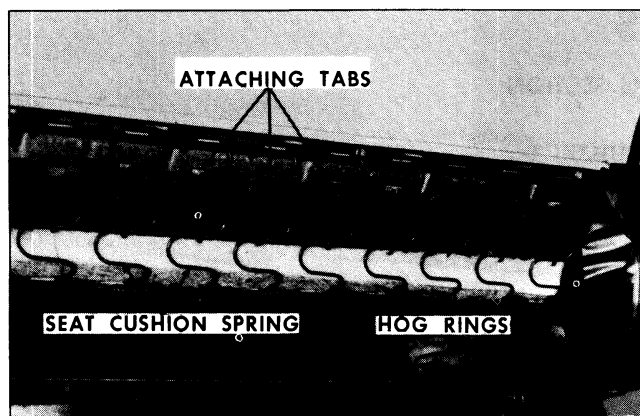

Fig. 17-2 Cushion Spring Attachment
3. Raise trim and remove cardboard breakover foundation to expose seat cushion spring attachment to seat back frame along rear of seat and hog rings securing ends of seat back trim to seat bottom frame (Fig. 17-2).
5. Bend open tabs securing seat cushion spring to seat back frame and carefully disengage springs from tabs (Fig. 17-2).